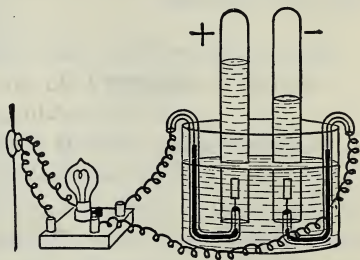

Fig. 39. Electrolysis of water.
65. The electrolysis of water. Water is placed in the glass dish of Figure 39. The two tubes are filled with water and inverted over two pieces of platinum foil, to each of which a wire is attached. These pieces of platinum serve to conduct an electric current into and out of the liquid. They are called the **electrodes**, positive and negative as marked in the illustration. As a source of current the 110-volt direct-current circuit